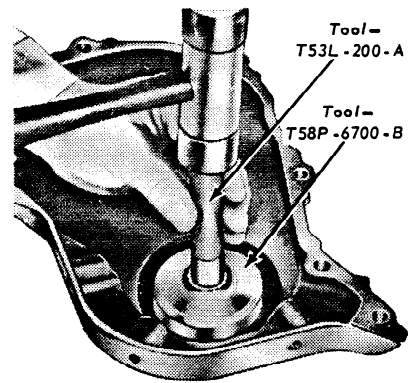

FIG. 37 Installing Crankshaft Front Oil Seal
1. Coat a new seal with grease and install the seal (Figure 37). Drive the seal in until it is fully seated in the recess. After installation, check to be sure the seal is properly positioned in the cover and the spring is properly positioned in the seal.